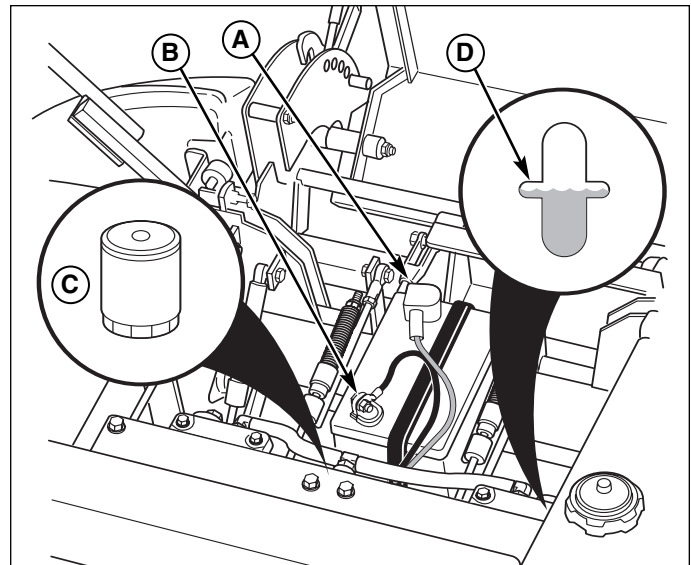

Figure 19. Battery Compartment
1. Check the oil level when the unit is cold. The inspection port is located on the inside of the right tank cover. The oil level should be within 1/2" (1.3 cm) of the horizontal level mark (D, Figure 19). If the oil is below this level, proceed to step 2.
3. Add oil up to the full mark (D, Figure 19).
1. Locate the transmission oil filter (C, Figure 19) at the rear of the battery compartment under the seat.
1. Disconnect the cables from the battery, negative cable first (B, Figure 19).
3. Reinstall the battery and reattach the battery cables, positive cable first (see A, Figure 19)